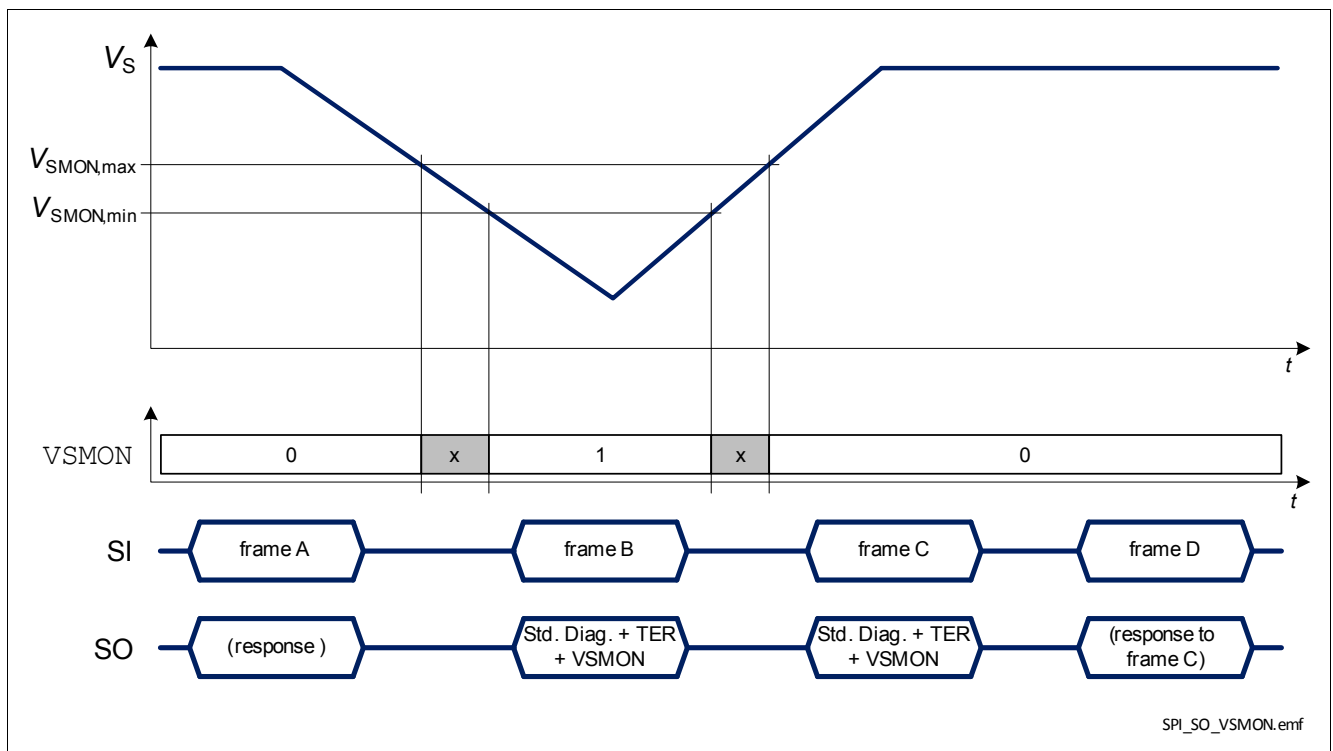

Figure 34 BTS54040-LBA response in case of a negative battery voltage transient
- when $V_S < V_{\text{SMON}}$ and $\text{DCR.MUX} \neq 111_{\text{B}}$, as shown in Figure 34